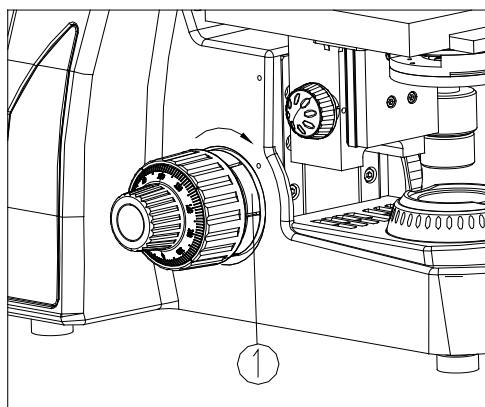

Fig. 11
The tension adjustment ring ① is located on the left side of the microscope (Fig. 11). Rotate the ring in the direction of the arrow to increase tension. Rotate the ring towards the back of the microscope to lower or reduce the focus tension.